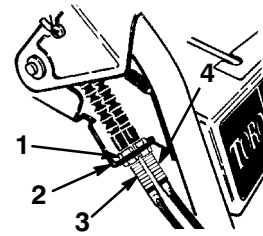

Figure 28
1. Loosen the upper jam nut that secures the traction cable to the mounting bracket (Fig. 28).
2. Rotate the bottom jam nut upward to increase the belt tension (Fig. 28).
- A. Loosen the upper jam nut that secures the auger/impeller cable to the mounting bracket (Fig. 28).
8. On the control cable that corresponds to the belt being replaced, loosen the jam nuts that secure the cable to the bracket (Fig. 28).